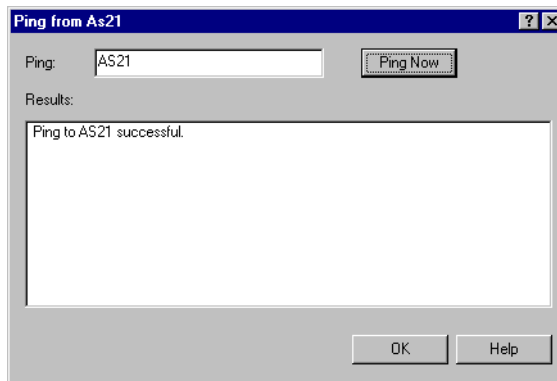

Figure 339. Ping from dialog
- As shown in Figure 339, type the IP address or host name of the interface of the host to which you want to test connectivity, and click **Ping Now**. The results of the ping are displayed. Figure 339 shows the Ping from dialog.